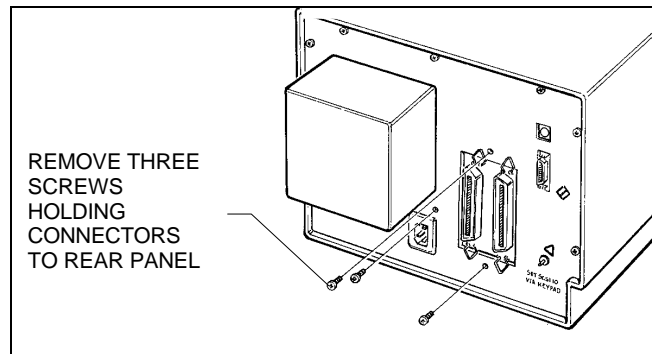

Figure 6-9. Removing the securing hardware from the rear panel
4. Return the unit to the right-side up position and remove three screws securing the SCSI connectors to the rear panel. (Figure 6-9)